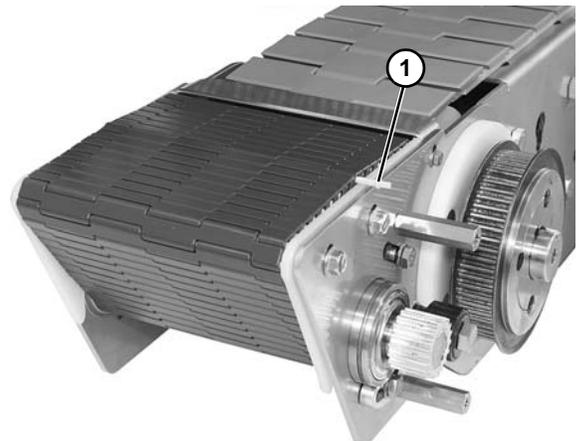

Figure 75
7. Bring ends of belt together and install pin (**Figure 75, item 1**).